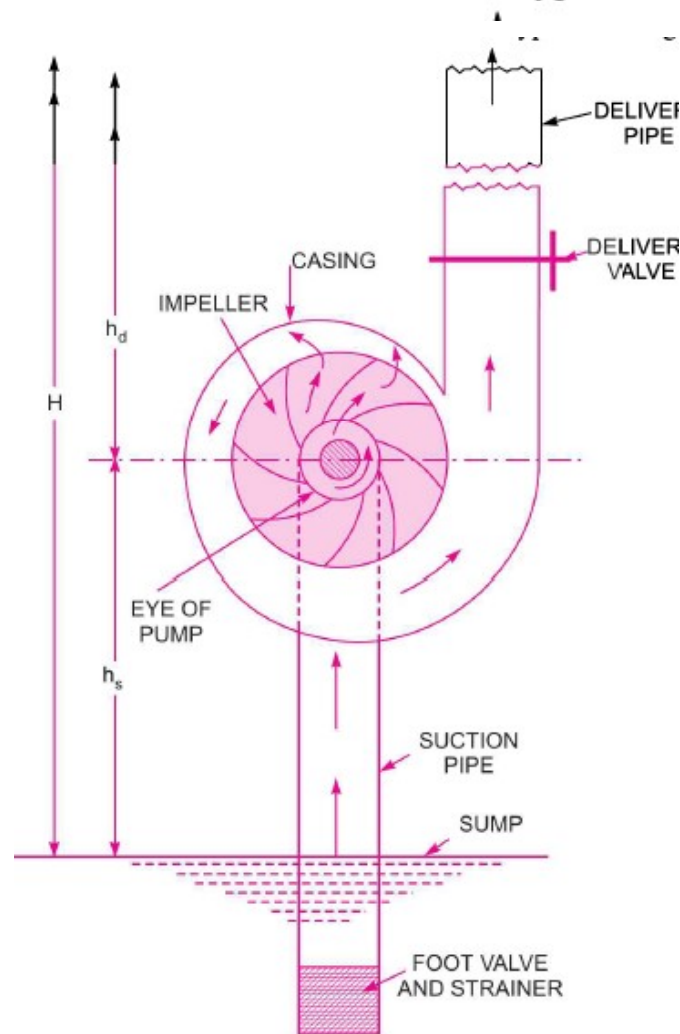

Fig. 19.1 Main parts of a centrifugal pump.
All the main parts of the centrifugal pump are shown in Fig. 19.1.
(a) **Volute Casing.** Fig 19.1 shows the volute casing, which surrounds the impeller. It is of spiral type in which area of flow increases gradually. The increase in area of flow decreases the velocity of flow. The decrease in velocity increases the pressure of the water flowing through the casing. It has been observed that in case of volute casing, the efficiency of the pump increases slightly as a large amount of energy is lost due to the formation of eddies in this type of casing.
1. Suction Head (h_s). It is the vertical height of the centre line of the centrifugal pump above the water surface in the tank or pump from which water is to be lifted as shown in Fig. 19.1. This height is also called suction lift and is denoted by ' h_s '.